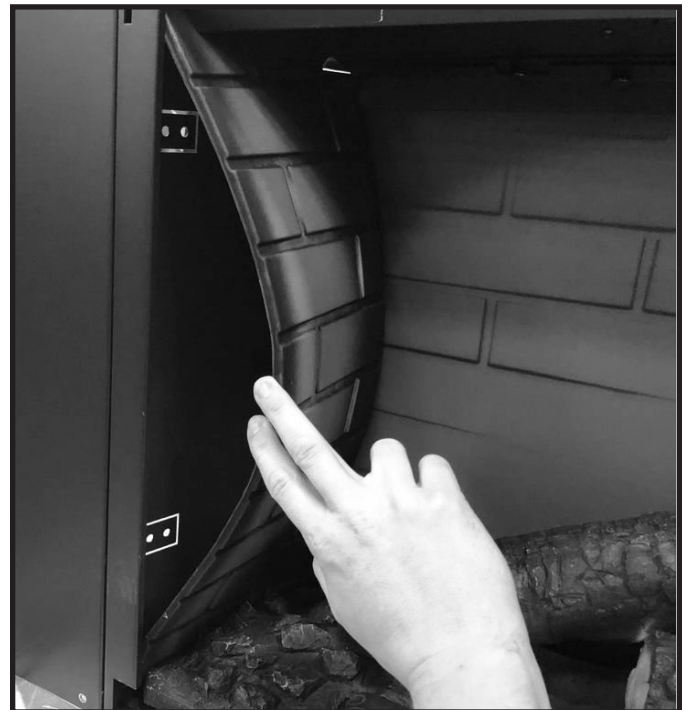

Figure 2 Interior Side Panel
4. Grasp the INTERIOR Side Panel and pull it away from the appliance side wall, releasing the magnets. See Figure 2.